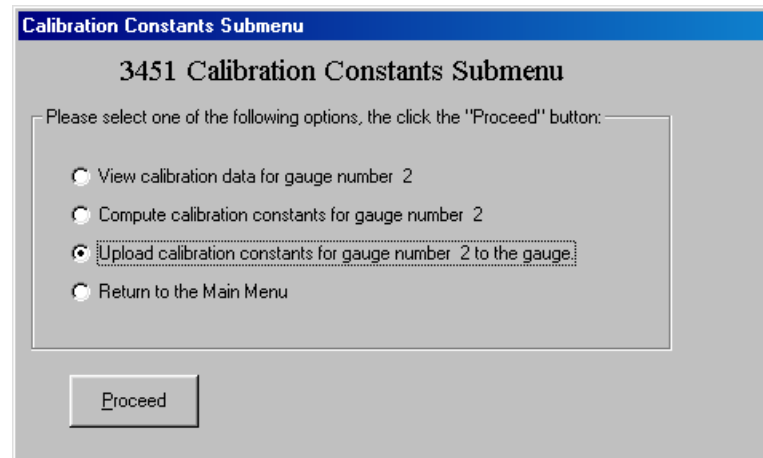

Figure 4–19. Calibration Constants Submenu, Upload Calibration Constants Option Selected
19. The **Calibration Constants Submenu** is again displayed, with all four options available as shown in Figure 4–19. Select the fourth option, **Return to the Main Menu**, and click the **<Proceed>** button.